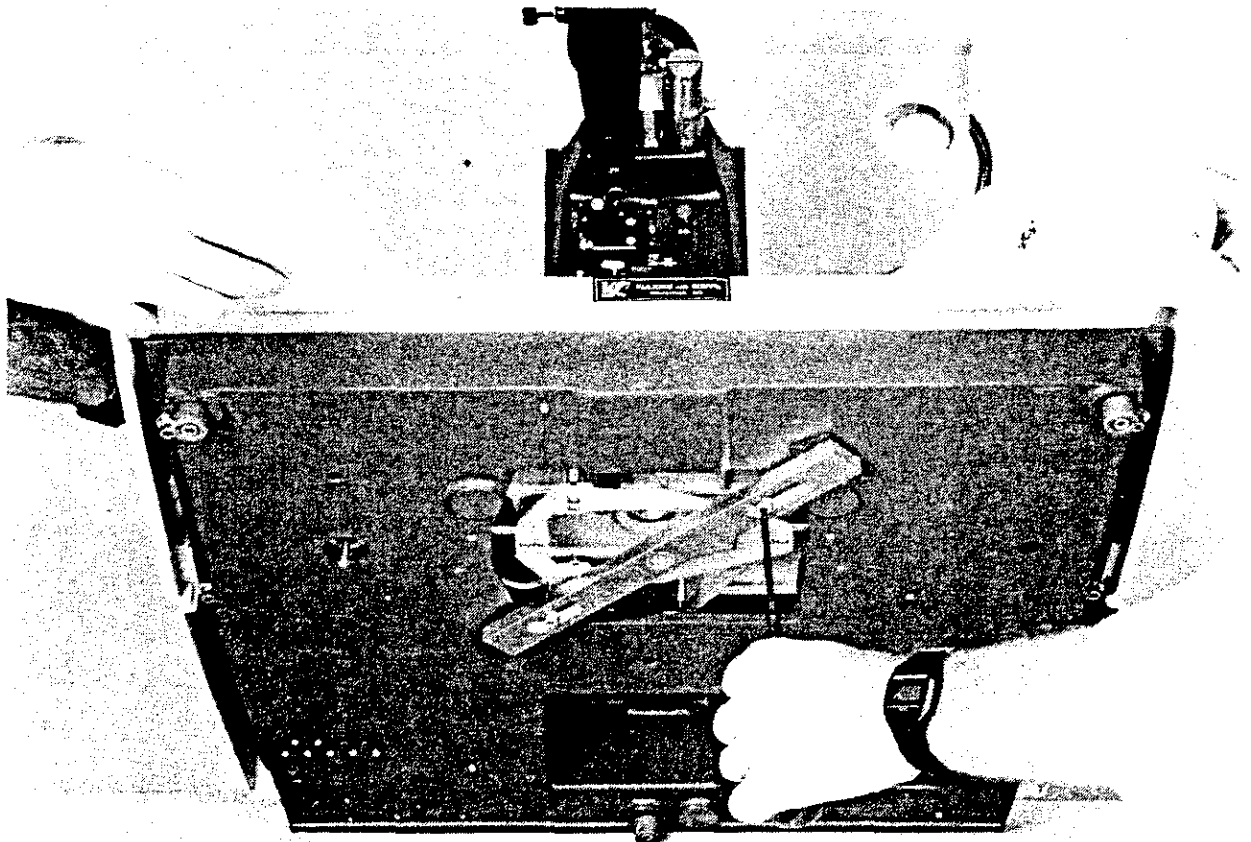

Figure 1-6 Removing the Manipulator Locking Rod
Step 22 Free the Manipulator assembly as follows (refer to Figure 1-6):